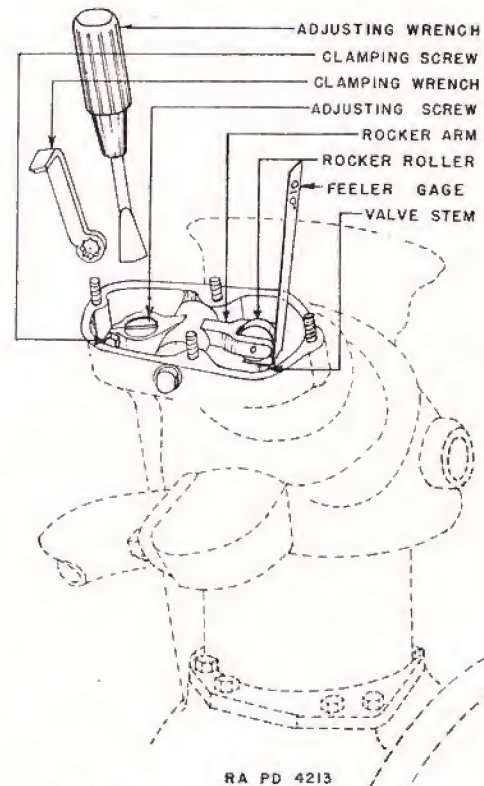

FIGURE 31.—Adjustment of valves.
60. Valve adjustments (fig. 31).—Valve timing check and clearance adjustment (with engine cold):
h. If the timing is correct, proceed to adjust the valve tappet clearance under the rocker arm rollers to 0.010 inch with the piston at top center at the beginning of the power stroke (fig. 31). Also do this for cylinder No. 9 which was disturbed as per *d* above.